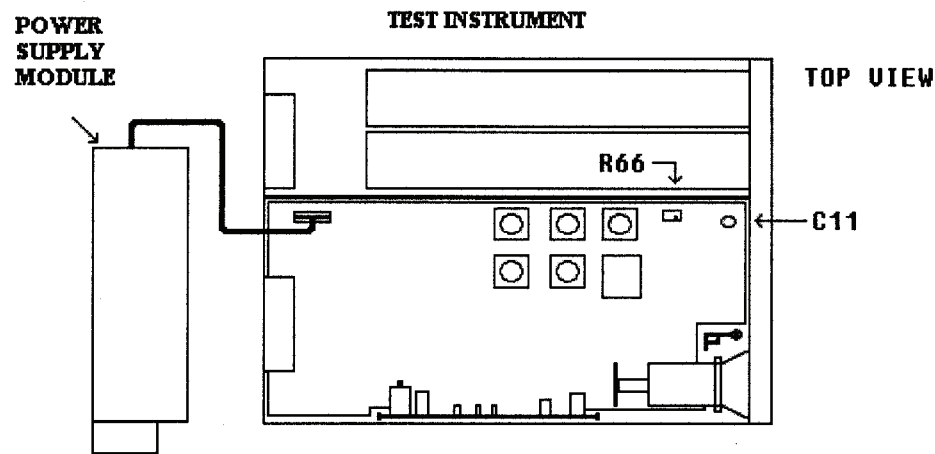

Figure 5. Trigger level adjust.
- (8) Set up function/arbitrary generator for an output of 1.00 Vpp 100 kHz square wave.
- (9) Set oscilloscope **Vertical 1** and **Vertical 2** input impedance to 50Ω.
- (10) Adjust oscilloscope controls to obtain a satisfactory dual two-channel display on the crt.
- (11) Rotate TI **FINE CONTROL KNOB** clockwise, increasing the trigger level. Record the level at which the waveform disappears. Reset the trigger level to 0.10 V.
- (12) Rotate TI **FINE CONTROL KNOB** counterclockwise, decreasing the trigger level. Record the level at which the waveform disappears. Reset trigger level to 0.10 V.
- (13) Add the results of (11) and (12) above. Divide this value by two and subtract the result from the value recorded in step (11). Rotate TI **FINE CONTROL KNOB** to adjust trigger level to this new value.
- (14) Adjust R66 (fig. 5) until **Vertical 2** waveform just disappears (R).
- (15) Using TI **FINE CONTROL KNOB** adjust trigger level to 0.52 V.
- (16) Adjust C11 (fig. 5) to the point that the waveform just disappears (R).
- (17) Press TI **POWER ON/DISABLE** key to **DISABLE**.
- (18) Disconnect 115 V power cord from TI.
- (19) Reinstall power supply module in TI chassis.
- (20) Replace TI top cover.
- (21) Reconnect 115 V power cord to TI.
- (22) Press TI **POWER ON/DISABLE** key to **ON**.